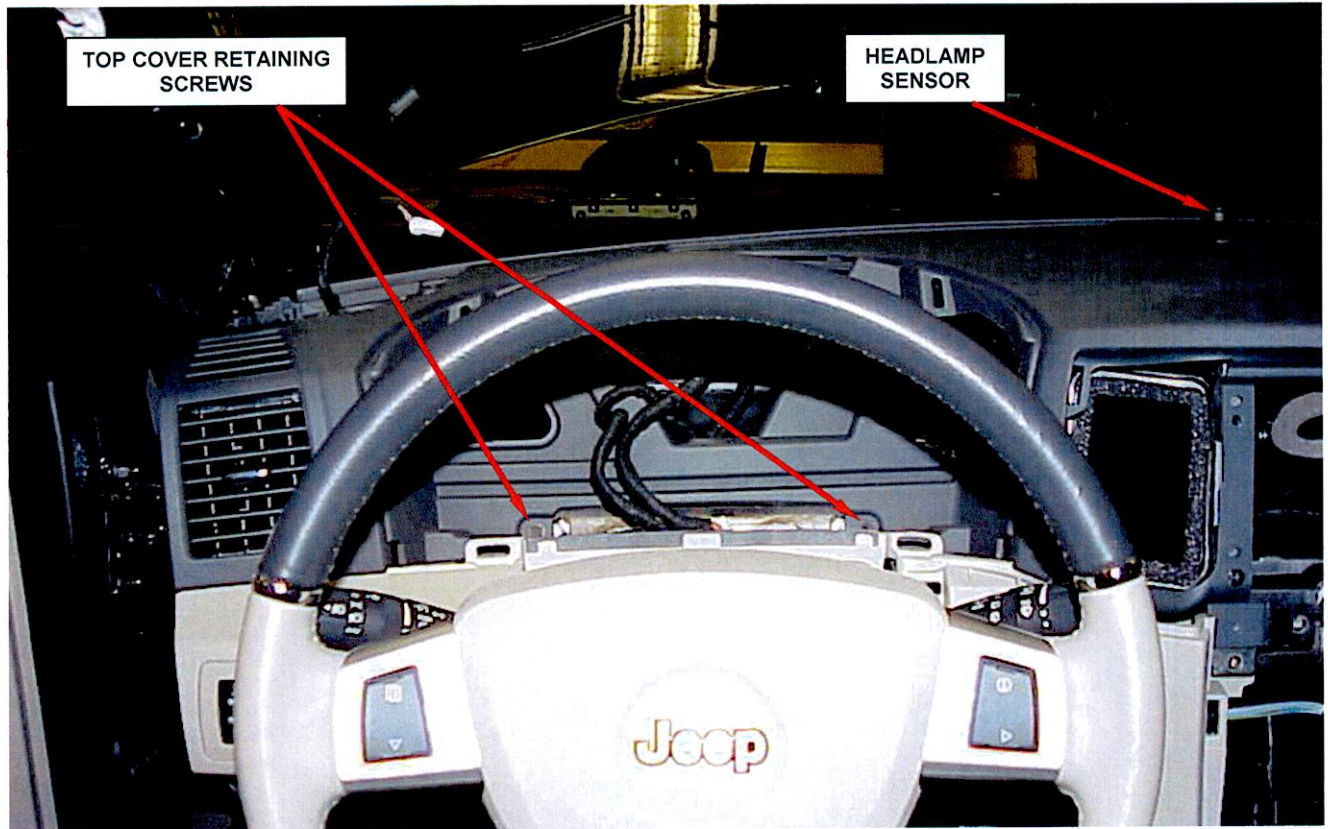

Figure 6 - Retaining Screws at Back of Instrument Panel Cluster Opening
20. Remove the two top cover-to-instrument panel retaining screws located at the back of the instrument panel cluster opening (Figure 6).
26. Vehicles equipped with headlamp sensor, remove and disconnect the headlamp sensor located in the center of the top cover (Figure 6).
30. Vehicles equipped with headlamp sensor, Connect the wiring to the headlamp sensor located in the center of the top cover and then install the sensor (Figure 6).